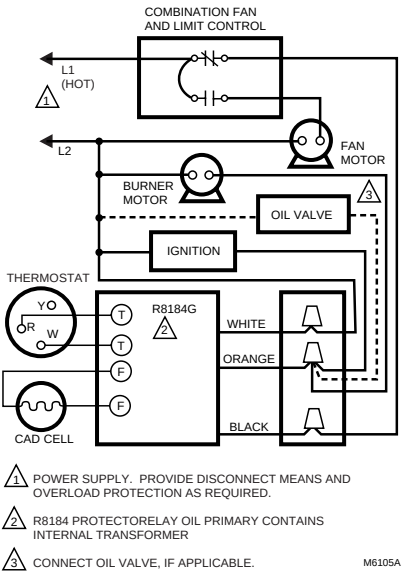

Fig. 2. Typical oil heating system.
- 1. Connect the system wires to the wallplate as shown in Fig. 2 through 6. A letter code is near each terminal for identification.